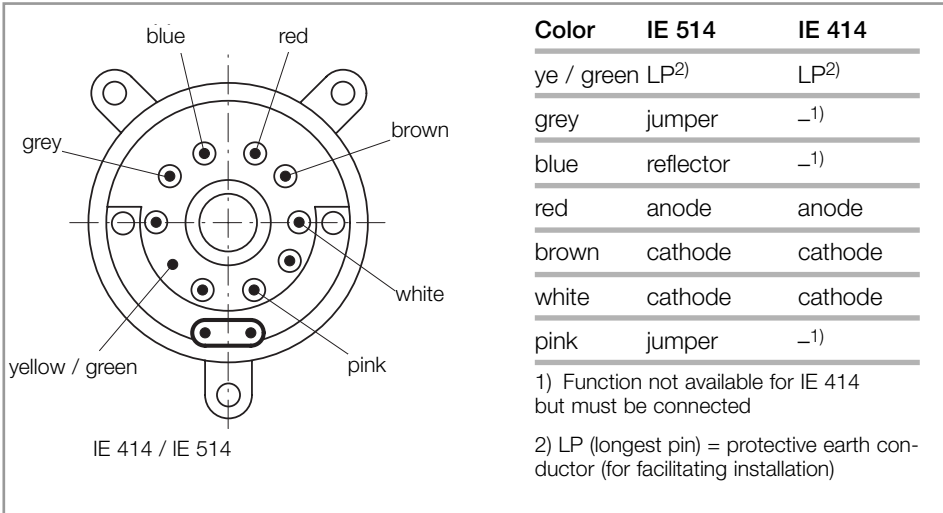

Abb. 3 View onto the gauge head
- Connect the temperature resistant gauge head cable to the gauge head as depicted in fig. 3. The individual wires of the gauge head cable are colour-coded.